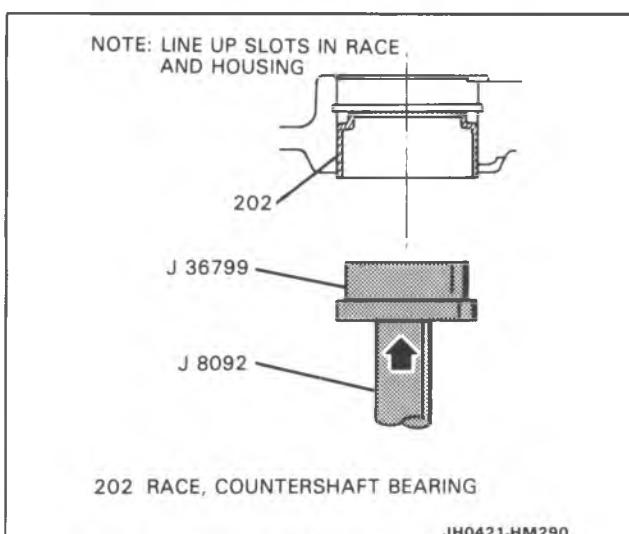

Figure 58 Countershaft Bearing Race Install
5. Countershaft bearing race (202) using J 36799 and J 8092 (Figure 58).